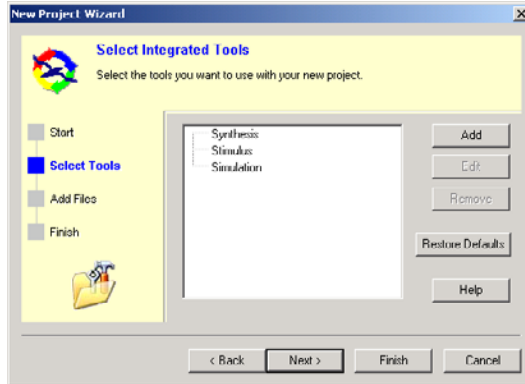

Figure 2-2. Selected Integrated Tools in New Project Wizard (Libero IDE)
7. Click **Next** to **Select Integrated Tools** in the New Project Wizard (Figure 2-2).